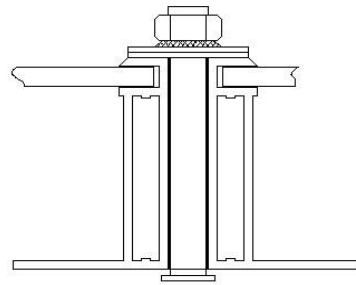

figure 2
3.4.3 There is many different tighten type about tighten from top and tighten from underside (see figure2), and installing way depends on installing structure.